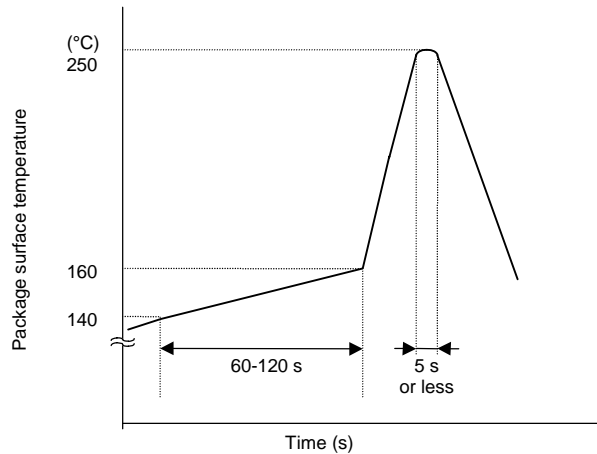

Figure 5 Sample temperature profile for solder flow
(4) Using solder flow
- Figure 5 shows an example of a recommended temperature profile for surface-mount packages using solder flow.